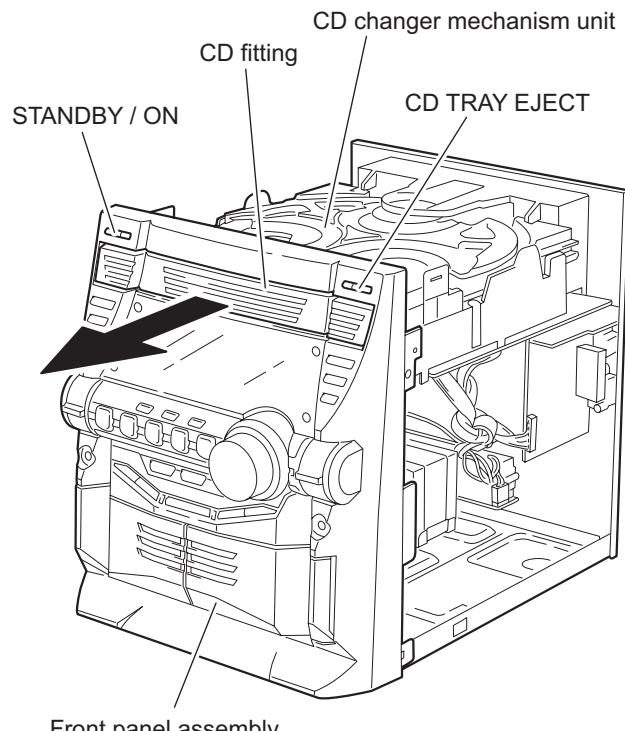

Fig.7
3.1.2 Removing the CD fitting (See Fig.7 to 9)
- Prior to performing the following procedure, remove the top cover / side cover (R) and (L).